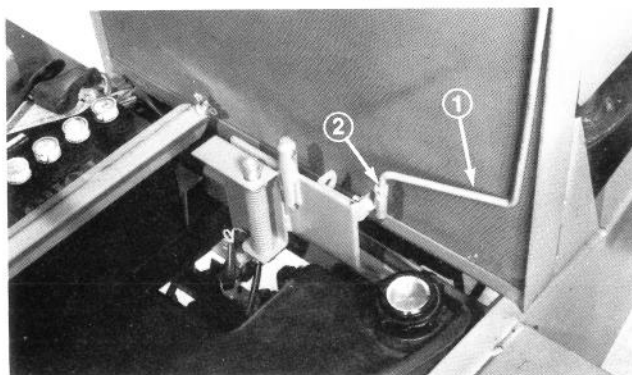

Figure 9
4. Install seat support rod to seat support bracket with jam nut (Fig. 9).